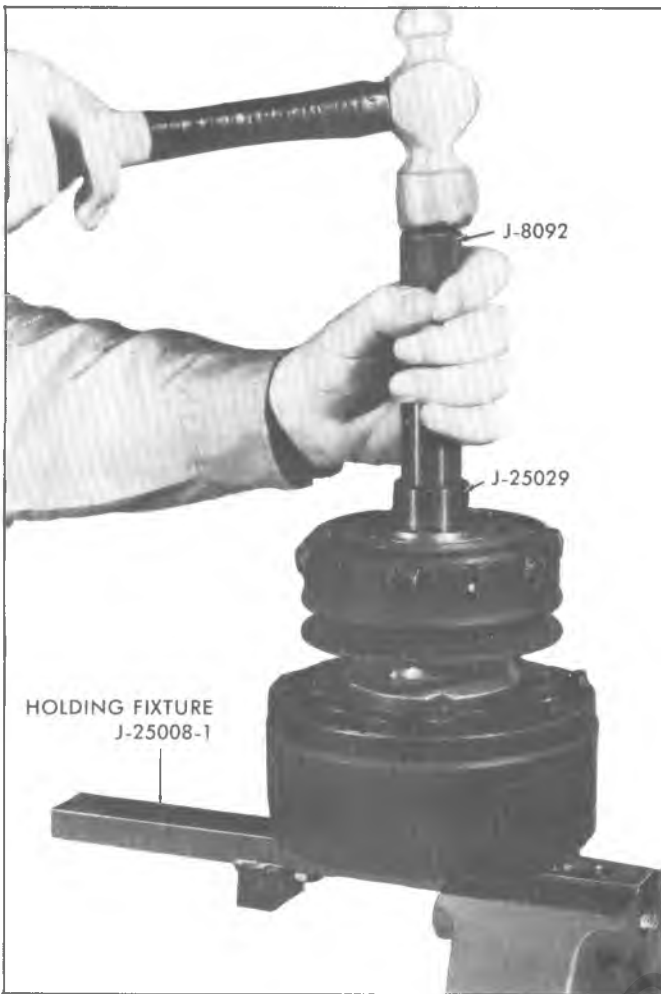

Fig. 17—Installing Rotor and Bearing Assembly
4. Reassemble rotor and bearing assembly to front head of compressor using rotor bearing remover and rotor assembly installer J-25029. With tool J-25029 assembled to the handle as shown in Figure 17, the tool will apply force to the inner race of the bearing when installing the clutch and pulley assembly on the front head of the compressor.
6. Assemble and fully seat pulley rim to clutch rotor and bearing assembly as shown in Figure 17, using loctite RC-75 or equivalent on screw threads and
7. Tighten pulley rim mounting screws to a 50-70 inch pounds torque and lock screw heads in place as shown in Figure 17.
5. Install clutch rotor and bearing assembly, clutch coil and pulley rim assembly to front head (Fig. 17). Before fully seating the assembly on front head be sure clutch coil terminals are in the proper location
2. Place assembly on neck of front head and seat into place using rotor bearing remover and rotor assembly installer J-25029 as shown in Figure 17. Before fully seating the assembly on front head, be sure the clutch coil terminals are in the proper location in relation to compressor and that the three protrusions on the rear of the clutch coil align with the locator holes in front head.